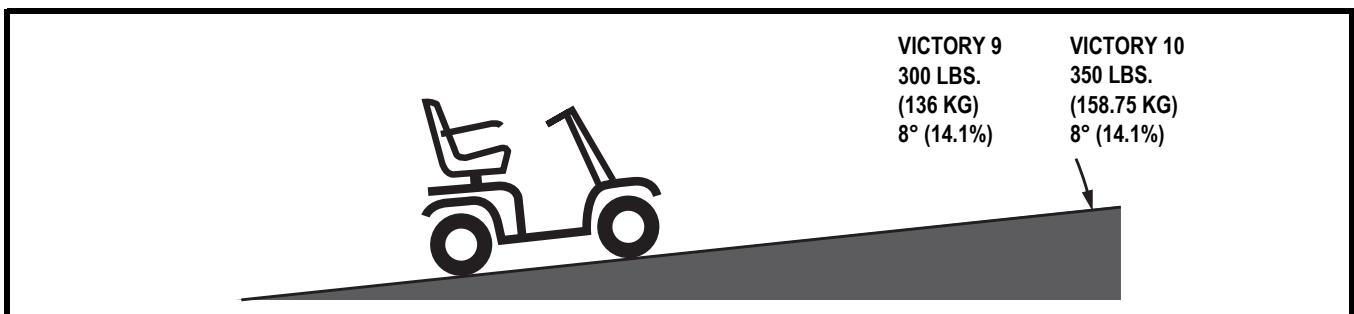

Figure 1. Maximum Recommended Incline Angles
**WARNING! Even though your scooter is capable of climbing slopes greater than those illustrated in figure 1, do not, under any circumstances, exceed the incline guidelines or any other specifications presented in this manual. Doing so could cause instability in your scooter.**
Handicap public access ramps are not subject to government regulation in all countries, and therefore do not necessarily share the same standard percent of slope. Other inclines may be natural or, if man-made, not designed specifically for scooters. **Figure 1** illustrates your scooter's stability and its ability to climb grades under various weight loads and under controlled testing conditions.
**WARNING! Any attempt to climb or descend a slope steeper than what is shown in figure 1 may put your scooter in an unstable position and cause it to tip.**